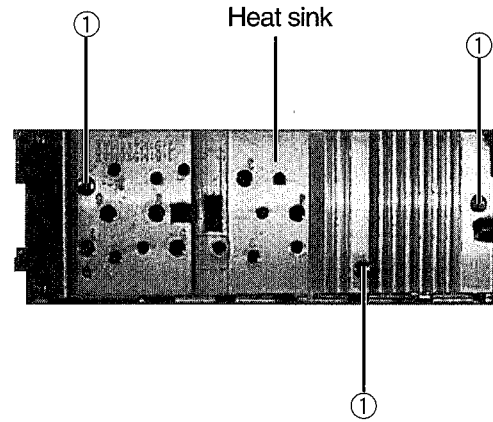

Fig. 5
■ **Removing the Heat Sink ( See Fig. 5 )**
3. Remove the three screws ① retaining the heat sink.